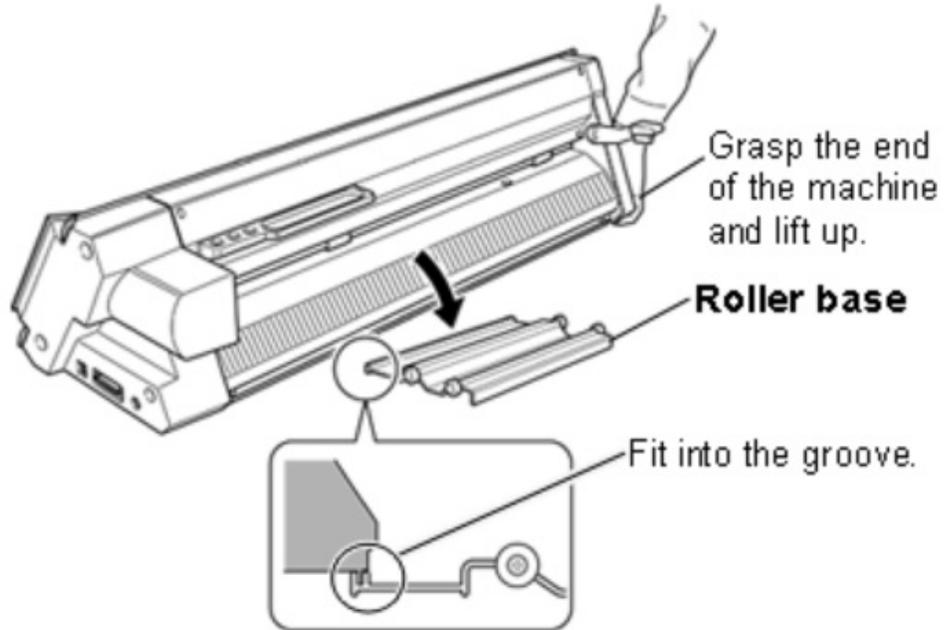

Figure 7: Roller Base
11. To load a roll of material into the base using the **ROLLER BASE**, **PULL OUT** a length of material longer than what is needed for cutting, leaving some slack (Figure 7 & 8).